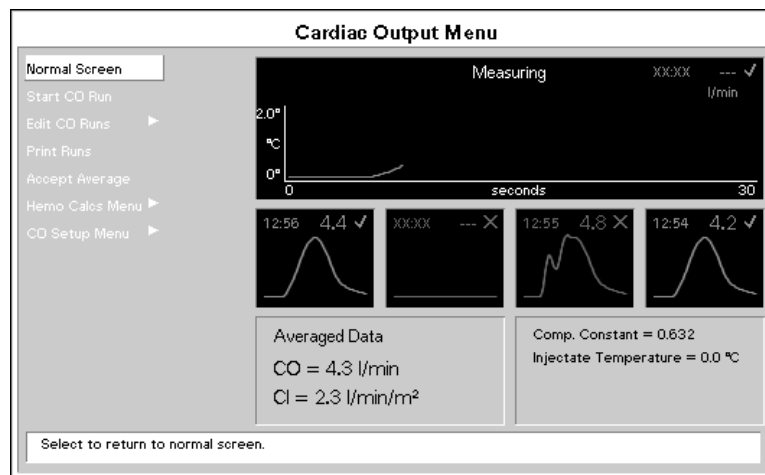

FIGURE 2-52 Cardiac Output Menu
7. Open the **Cardiac Output Menu** (shown in FIGURE 2-52) in one of the following three ways: